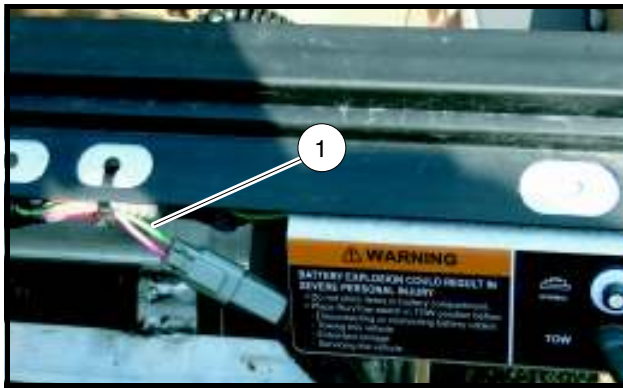

Figure 11-15 Test Tow/Run Switch
1. Set a multimeter to 200 volts DC. With the batteries connected, and the Tow/Run switch in either the TOW or RUN position, connect the black (–) probe to the negative post of battery no. 8 and connect red (+) probe (with insulation-piercing probe) on the pink wire close to the two-pin connector on the Tow/Run switch (**Figure 11-15**).
3. Set a multimeter to 200 volts DC and with the batteries connected, connect the black (–) probe to the negative post of battery no. 8 and connect red (+) probe (with insulation-piercing probe) on the light green wire (1) close to the two-pin connector on the Tow/Run switch (**Figure 11-15**).